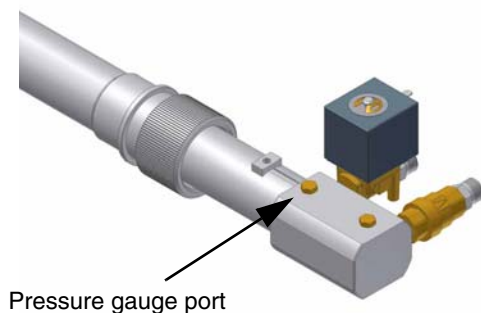

Fig. 18
- 9 the nozzle supply pressure is already factory-set and must not be changed. Only if necessary, adjust the supply pressure as follows (see related paragraph); insert a pressure gauge into the port showed on Fig. 18 and act on on the pump adjusting screw **VR** (see Fig. 17) as to get the nozzle pressure at 20bar or 25bar (according to the nozzle model: Bergonzo or Fluidics nozzle - see page 18).
- 10 the nozzle supply pressure is already factory-set and must not be changed. Only if necessary, adjust the supply pressure as follows (see related paragraph); insert a pressure gauge into the port showed on Fig. 18 and act on on the pump adjusting screw **VR** (see Fig. 20) as to get the nozzle pressure at 20bar or 25bar (according to the nozzle model: Bergonzo or Fluidics nozzles - see page 18).